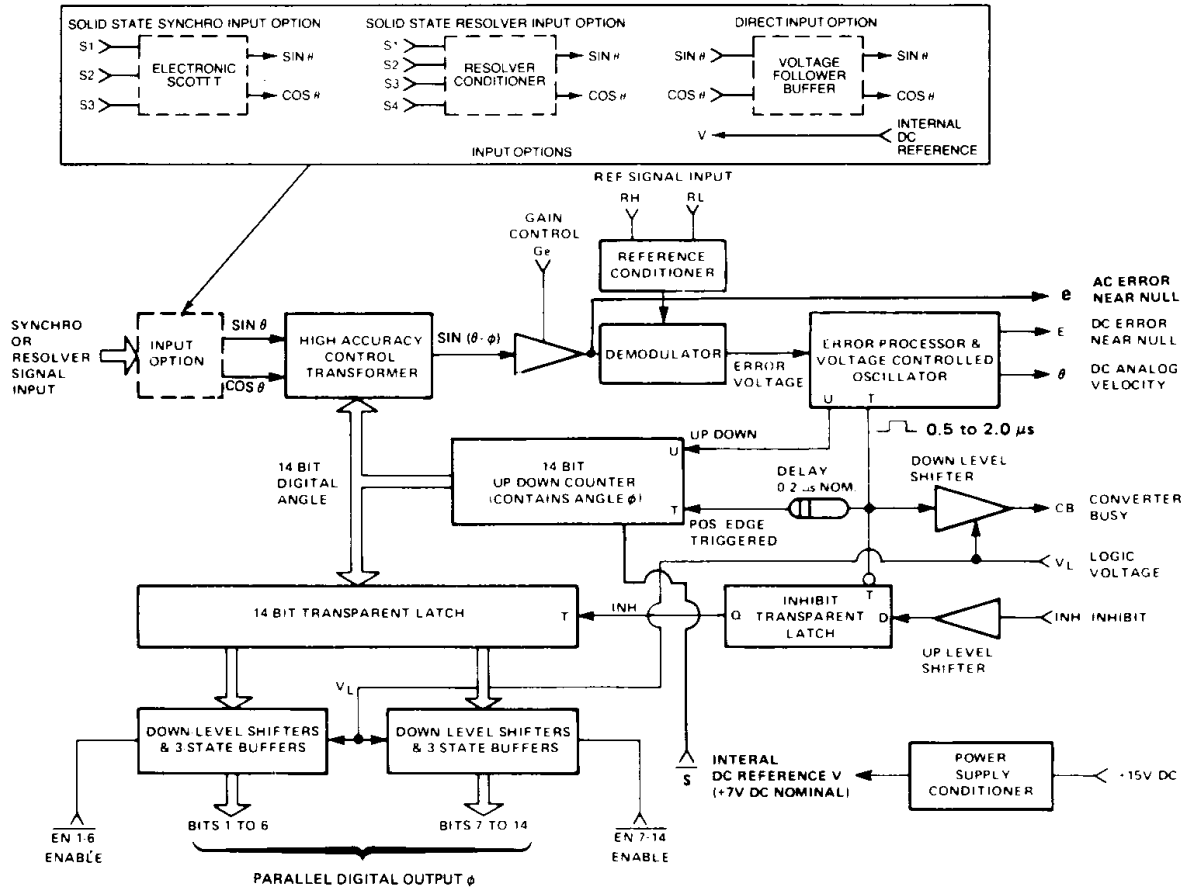

FIGURE 1. HSDC-8915 SERIES BLOCK DIAGRAM
The circuit shown in the HSDC-8915 block diagram, Figure 1, consists of three main parts: the signal input option; a feedback loop whose elements are the control transformer, demodulator, error processor, and up-down counter; and digital interface circuitry including various latches and buffers.
Logic outputs consist of 14 parallel data bits and a Converter Busy (CB). All logic outputs are short-circuit proof to ground and to positive voltages as high as V_L . The CB output is a positive 0.5–2.0 μs pulse, and data changes about 0.2 μs after the leading edge of the pulse because of an internal delay (see Figure 1). Data is valid 0.5 μs after the leading edge of a CB. If the converter is operated with fewer than 14 bits, the unused LSB bits should be left unconnected.
The Inhibit (INH) logic input locks the 14 bit transparent latch so that the bits will remain stable while data is being transferred (see Figure 1). The output is stable 0.5 μs after the Inhibit is driven to logic 0. A logic 0 at the T input locks the 14 bit latch, and a logic 1 allows the bits to change. The purpose of the INH transparent latch is to prevent the transmission of invalid data when there is an overlap between the CB and INH. While the counter is not being updated the CB is at logic 0 and the INH latch is transparent. When the CB goes to logic 1 the INH latch is locked. If a CB occurs after an INH has been applied, the 14 bit latch will remain locked and its data cannot change until the CB returns to logic 0. If an INH is applied during a CB pulse, the 14 bit latch will not lock until the CB pulse is over. The purpose of the 0.2 μs delay is to prevent a race condition between the CB and the INH in which the up-down counter begins to change just as an INH is applied.